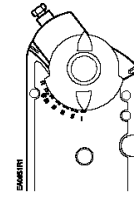

Figure 12.
- e. Place the position indicator to the 0 position on the outside scale. See Figure 12.
5. Remove the shaft adapter and insert it with the position indicator pointing to the mark on the scale calculated in the previous step. See Figure 12.